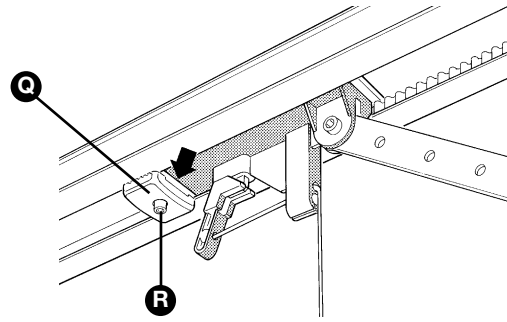

Figure 44
**10** Open the door manually to the desired open position, then place the rear mechanical stop **[Q]** near the carriage (Figure 44), and secure it tightening the screw firmly **[R]**.